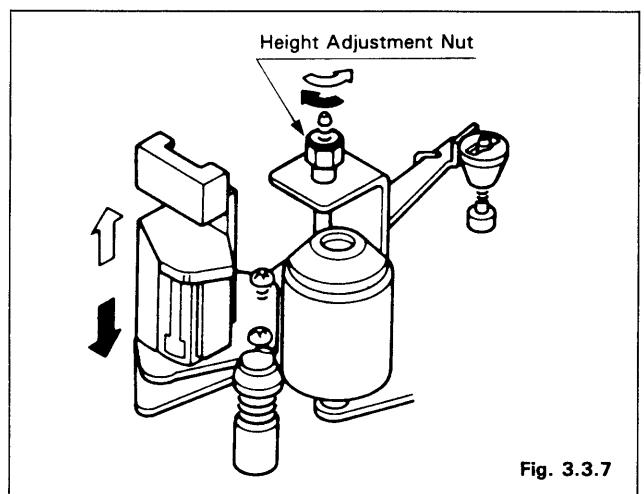

Fig. 3.3.7
- After confirming on the oscilloscope that a 1 kHz sine wave is being output, adjust the height adjustment nut so that the AC voltmeter's reading is brought to its maximum level. (Refer to Fig. 3.3.7)